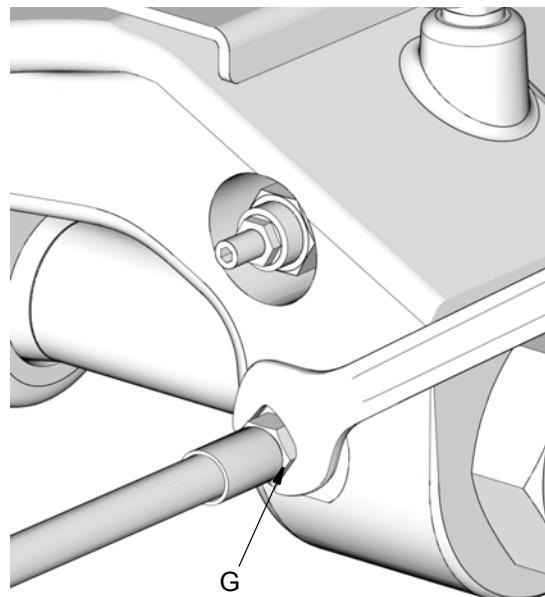

FIG. 10
2. To relieve pressure in the system use a wrench to ***slowly loosen*** the lubrication line fitting (G) until no lubricant or air is leaking out of the fitting (FIG. 10).